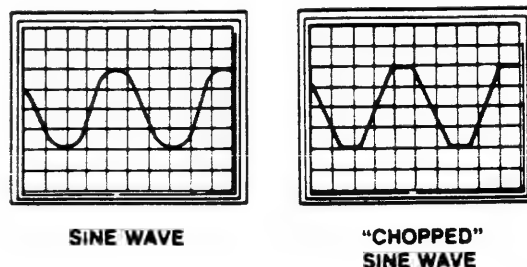

Figure 3-5C
6. Turn the M-654 Film Speed Control clockwise to run film at medium speed to obtain a sine wave or "chopped" sine wave similar to one of the displays shown in Figure 3-5C.